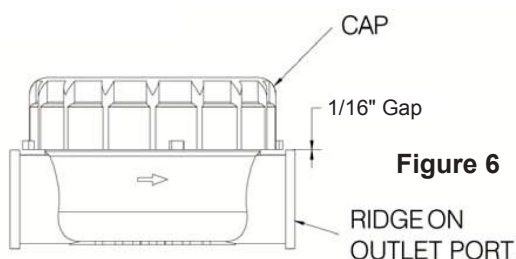

Figure 6
5. Thread on meter cap until hand tight. To check tightness, there should be approximately 1/16" gap between cap and ridge on outlet port. (See Figure 6).